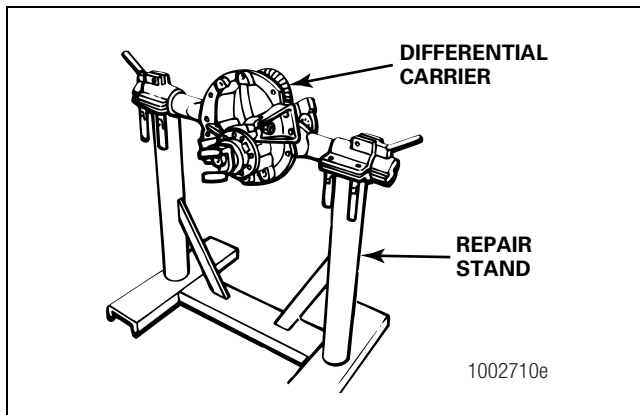

Figure 3.7
7. Use a lifting tool to lift the differential carrier by the input yoke or flange and place the assembly in a repair stand. Figure 3.7. Do not lift by hand. Refer to Section 10 to make a carrier repair stand.